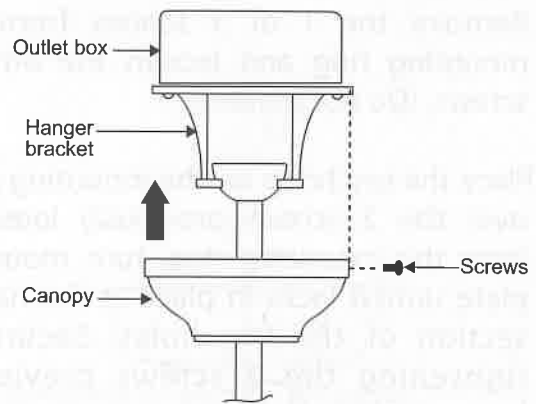

Figure 11
**Step 2.** Secure the canopy to the hanger bracket with the four canopy mounting screw provided. (Fig. 11)